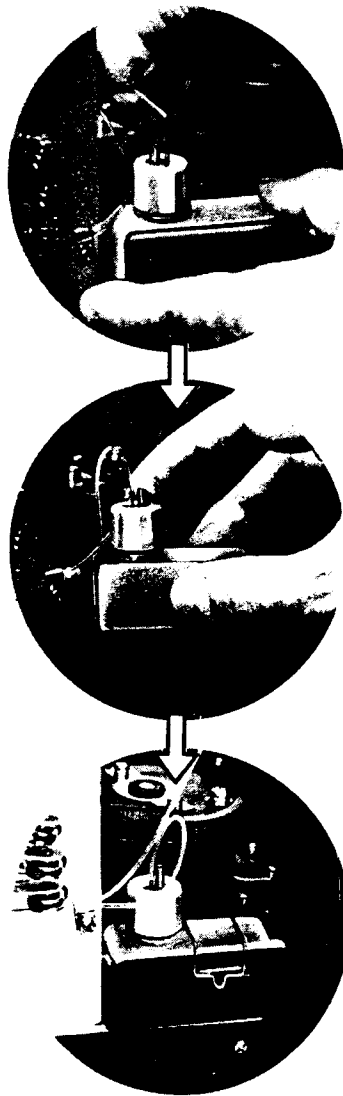

Figure 2-4. Placing Pen Tube Over Vent
4. To connect the coil from Pen 1 with the tube connector on the ink reservoir, place the pen tube over the smaller vent. See Figure 2-4.
7. Place the ink reservoir in the reservoir holder on the right side of the recorder. See Figure 2-4.
Although the color pads can be placed in different locations on the pad wheel, the indicator card will not match if such a change is made. To begin, no inking is necessary. See Figure 2-4. Simply insert the pre-inked wheel supplied in your accessory box and the process is complete.